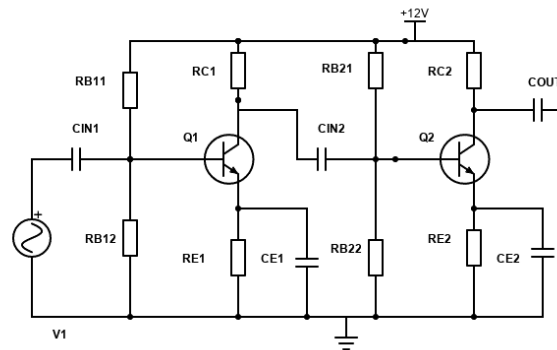

Figure Q3
- Redraw Figure Q3 by including a decoupling capacitor 4 marks